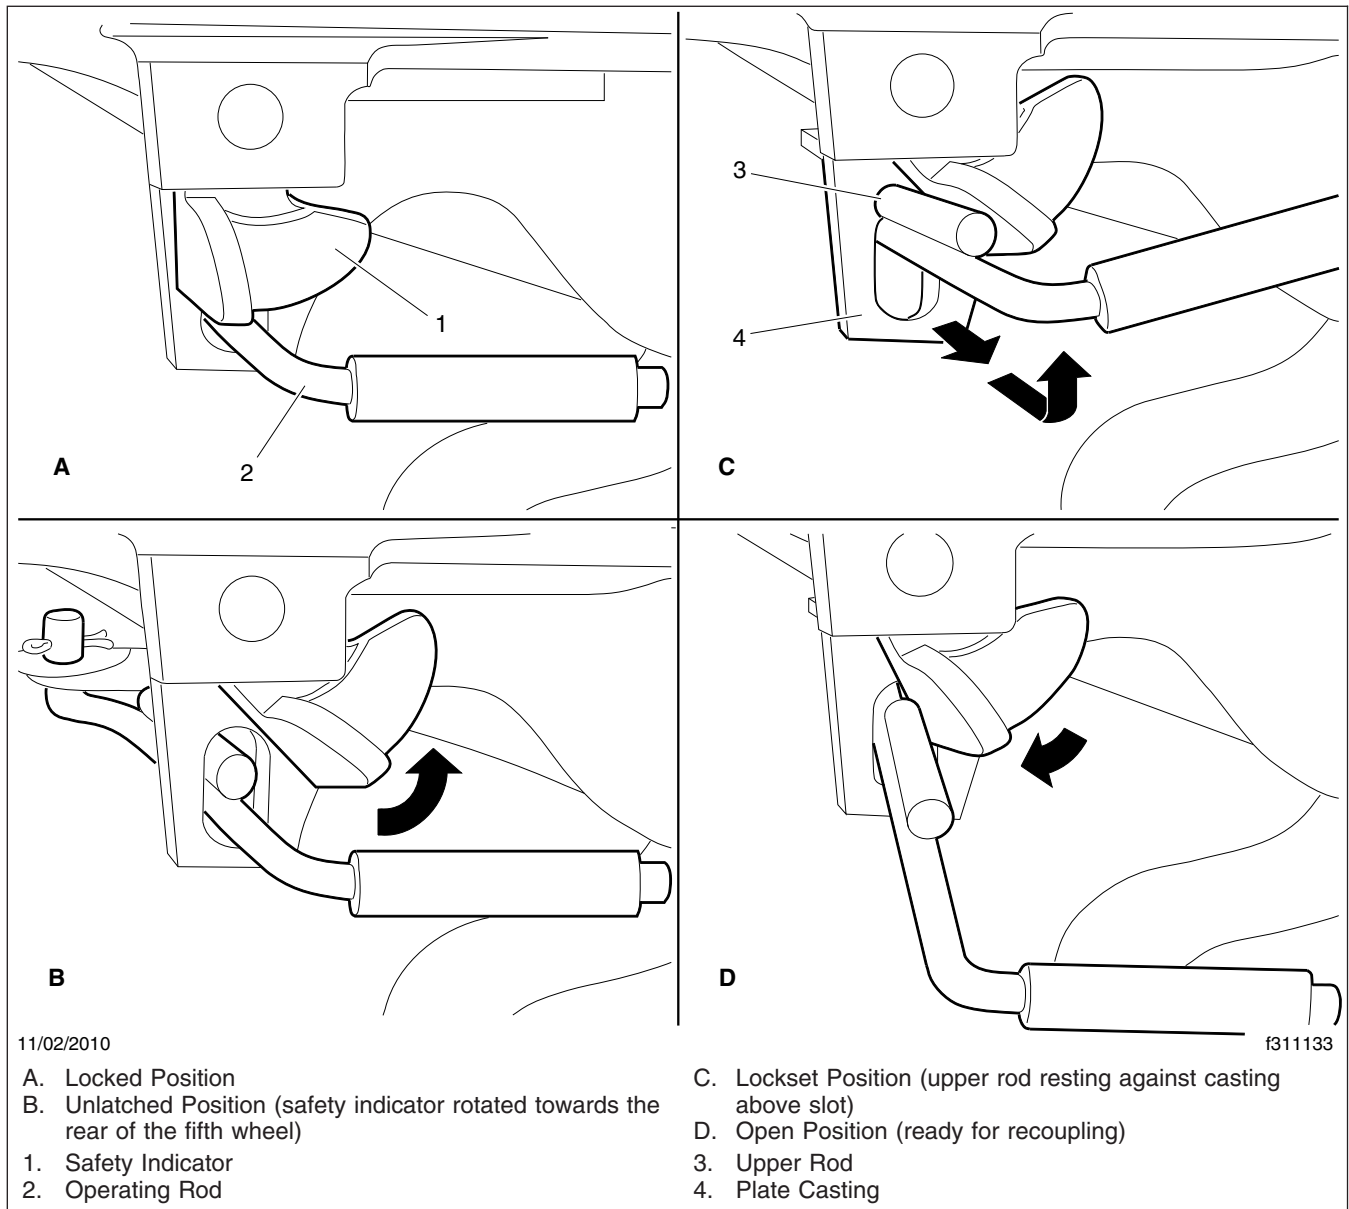

Fig. 18.9, Holland Kingpin Locking Mechanism
6.2 **Holland:** In the locked position the safety indicator swings freely over the operating rod. See Fig. 18.9, View A.
To unlock the mechanism, manually rotate the safety indicator toward the rear of the fifth wheel. See Fig. 18.9, View B.
Pull the operating rod out. When the upper operating rod shoulder is outside the slot, raise the handle and place the shoulder of the upper rod against the plate casting, above the slot. See Fig. 18.9, View C.
upper rod back into the slot. See Fig. 18.9 View D. The wheel is now ready for coupling.